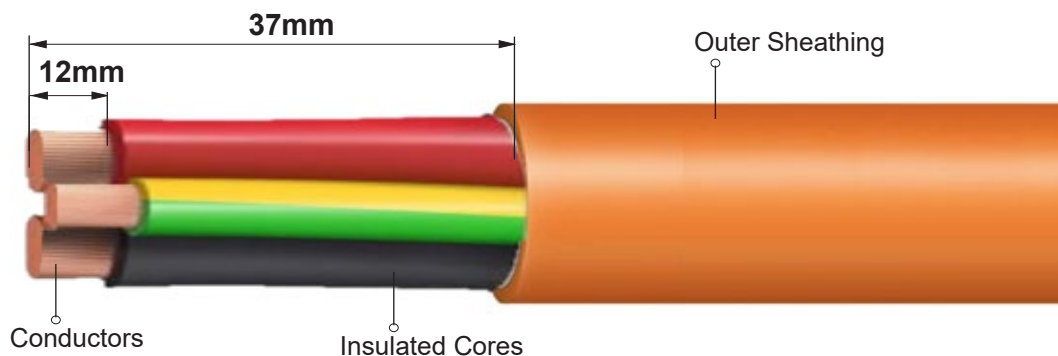

Figure 3: Cable Stripping Lengths
1. Select the suitable **J10 Straight Socket** by verifying the information given in Table 1 with the laser marking on the socket body. Unscrew the **Assembly Screws** and the **Lock Nut**. Mark the stripping length of the cable as shown in Figure 3 below.